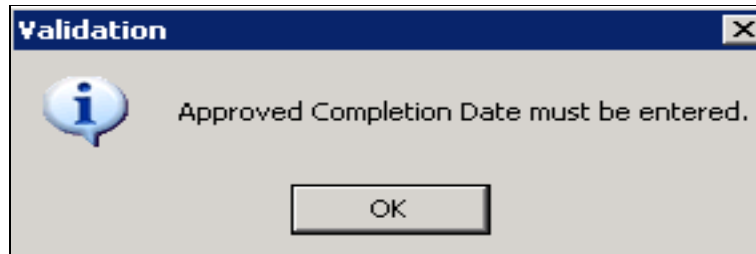

Figure 11-68: Approved Completion Date must be entered validation message
13. Some data errors made on the spreadsheet will not be validated by the system until the import process. In this example the Approved Completion Date is missing for all of the projects (Figure 11-67). Approved Completion Date is required for all projects but is only validated during the Submit process (Figure 11-68).